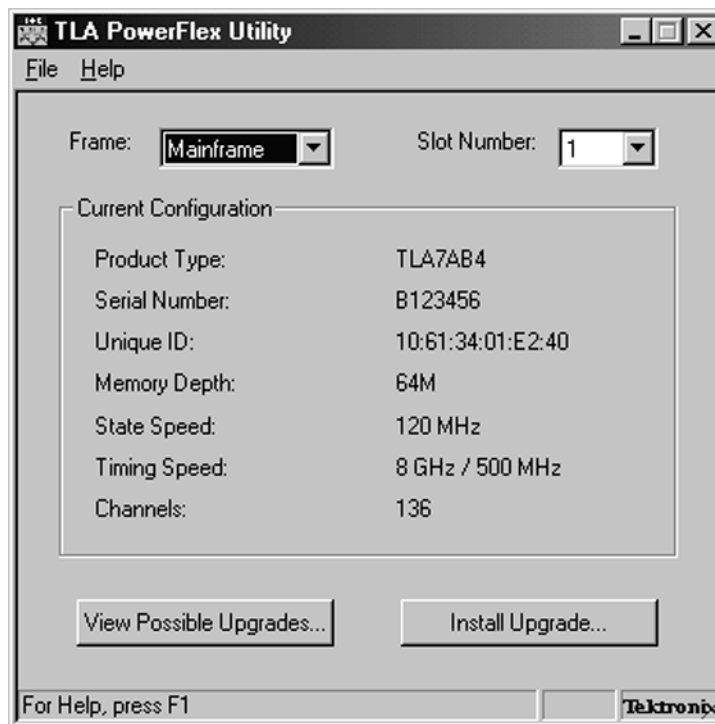

Figure 1: PowerFlex Utility
4. In the PowerFlex window (see Figure 1), select the instrument using the Frame and Slot Number drop-down lists. Verify that the current configuration for your instrument is correct.